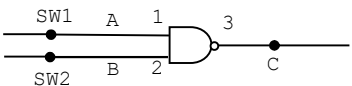

Figure 2-2
6. Wire the circuit shown in Figure 2-2. The inputs come from SW1 and SW2. You will measure the output voltage C at pin 3 of the 7400 IC.